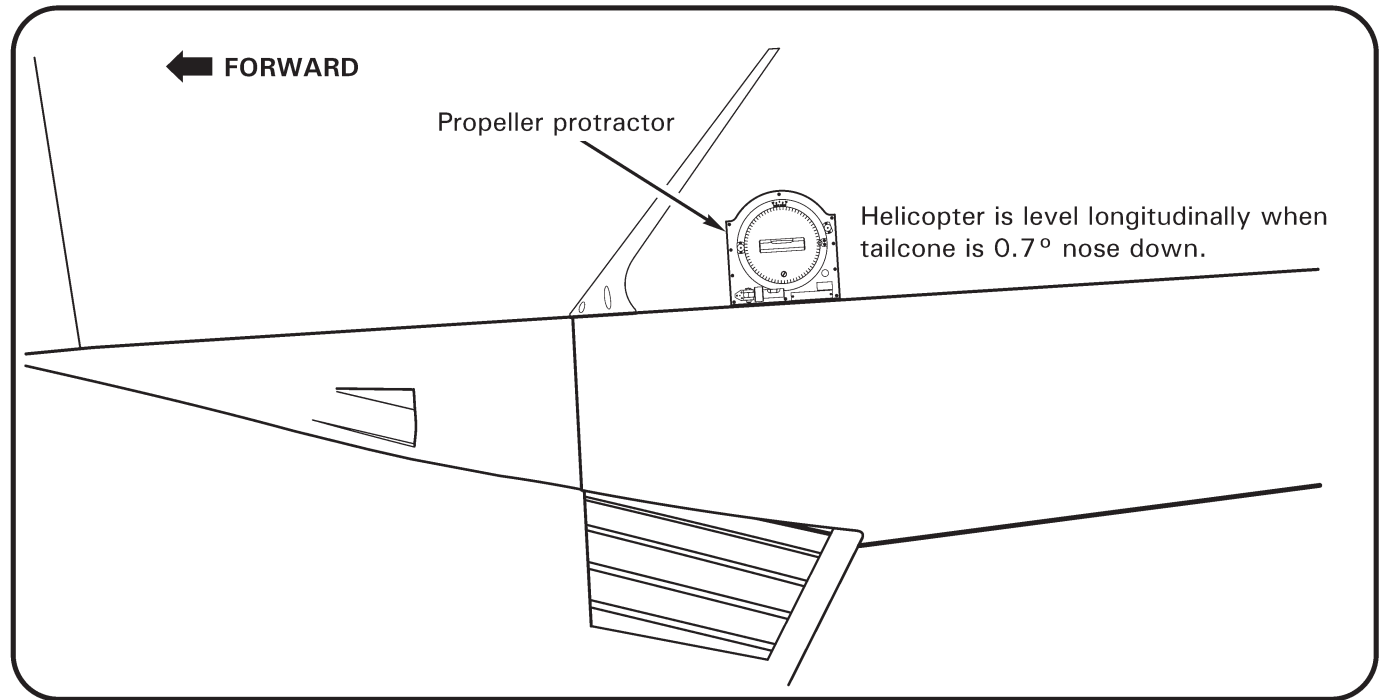

FIGURE 18-1 LEVELING USING TAILCONE
1. Refer to Figure 18-1. Place a propeller protractor or digital level on top of tailcone forward bay.